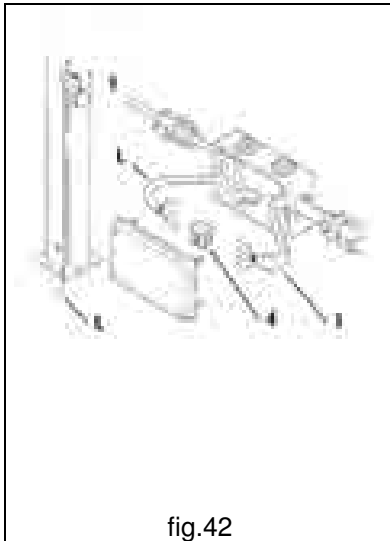

fig.42
4. Connect to the terminals **4** contained in the connector block the electric cable **1** and the cable of line **L** (inserted previously in the column- see 4.3.3 – Assembly column) - ( fig.42 ).